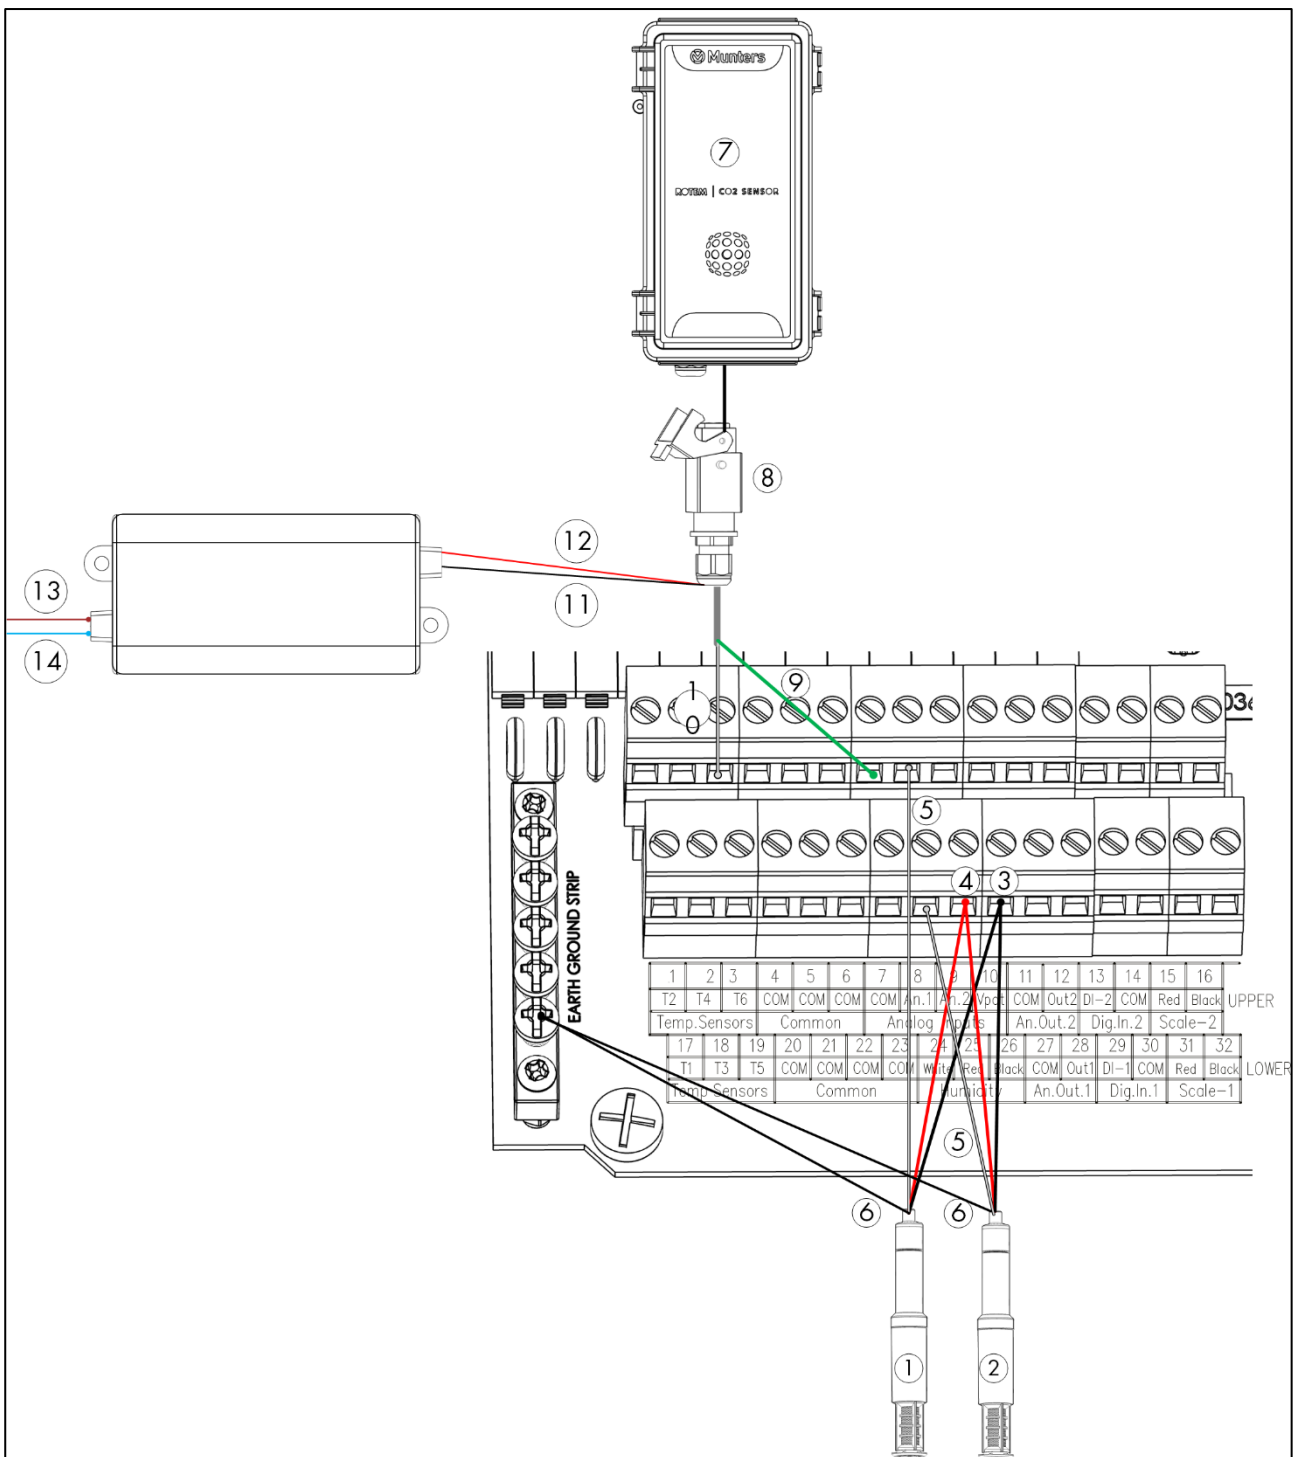

Figure 26: CO2 and Dual Humidity Sensor Wiring
1. Wire the sensors as shown in Figure 26.
1. Wire the CO2 sensor as shown in Figure 26.